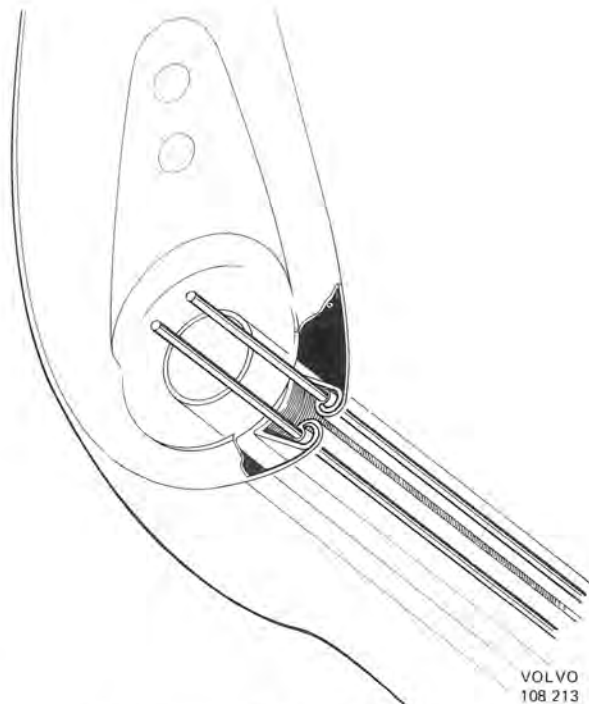

Fig. 8-51. Attaching upholstery at retaining moulding
6. Remove the lock wires for the upholstery (Fig. 8-51). Remove the seat back pocket and lift up the upholstery from the retaining moulding.
10. Install the lock wires in the upholstery channel and hook the upholstery in the retaining moulding (Fig. 8-51). Install the seat back pocket and lock the upholstery with the seat back pocket clips.